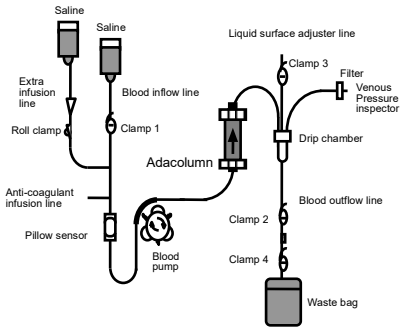

Fig.2
- 2) Remove the cap from the red-colored end of Adacolumn and connect the blood inflow line firmly to the Adacolumn. Place Adacolumn into the column holder so that the red connection is facing downward. Remove the cap on the blue-colored exit of Adacolumn and connect the blood outflow line (Fig.2).